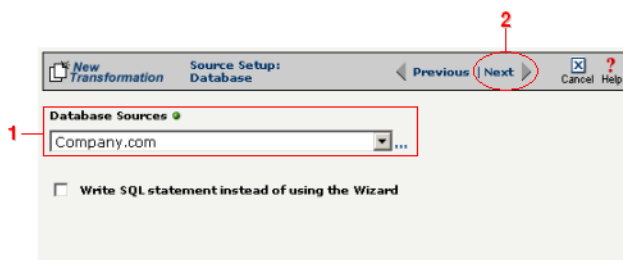

Figure 3-10. This part of the Transformation Wizard is where you select which (database) source you will use.
- 2 Compare your work with Figure 3-10 below, then click **Next** in the toolbar to continue.